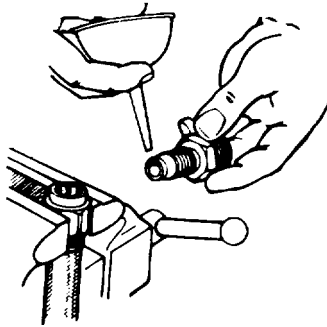

Figure 16I-5. Lubricate the Nipple
6. Hand assembly tools are available for assembling the nipple assemblies into the hose socket assembly. The ST-1 160 Assembly Tool Kit, includes an assembly mandrel for each hose Size 4, 5, 6, 8, 10, 12 and 1 6. In an emergency, a brass fitting can be tightened enough in the swivel nut to enable turning the flare seat (nipple) into the hose and socket, Figure 16I-6.